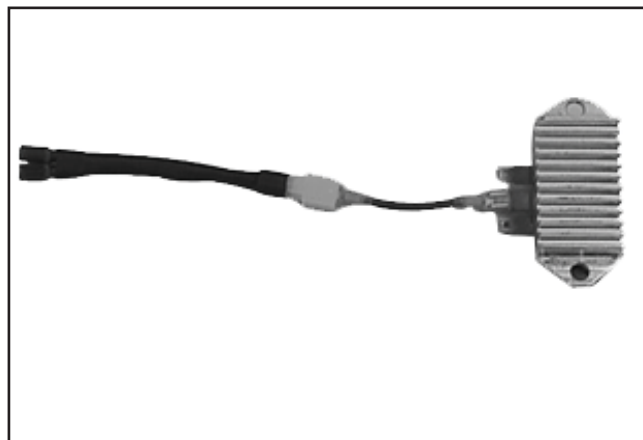

Figure 7-25.
1. Connect the single lead adapter in between the B+ (center) terminal of the rectifier-regulator being tested and the squared single end of the tandem adapter lead. See Figure 7-25.